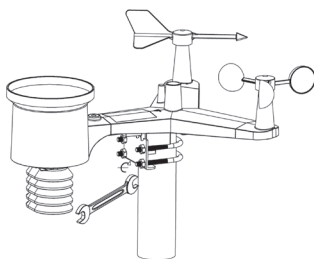

Figure 8
2. Mount the sensor array and U-Bolt assembly onto the mounting pole (Figure 8).